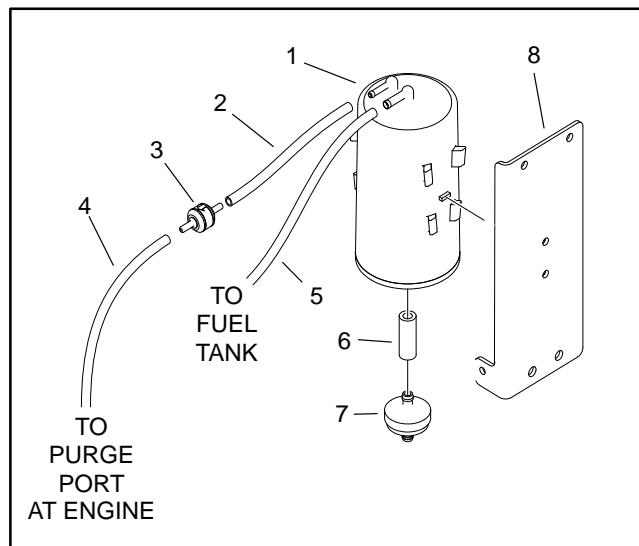

Figure 11
3. Note hose routing, cable tie and anchor clamp locations. Remove fuel evaporative control system components as needed (Fig. 11).
1. Install all removed EVAP components. Make sure that fuel hoses are not kinked after installation. Secure all hoses with hose clamps, anchor clamps and cable ties as noted. If hoses were removed from the carbon canister, check hose connections for correct system operation (Fig. 11).